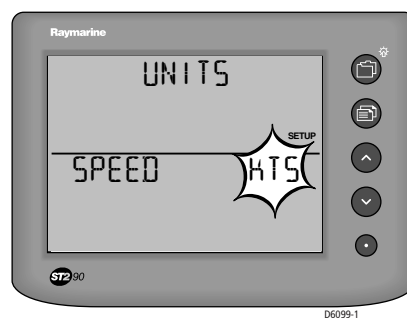

Figure 3-14: Typical data UNITS page
- SPEED units (as in *Figure 3-14*) to either knots, kilometers per hour or miles per hour (KTS, K/H or MPH).